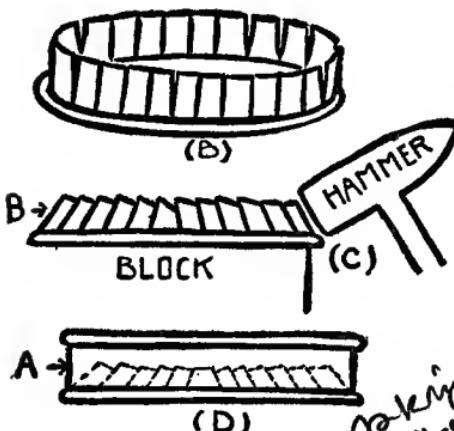

FIG. 49.
side of this second can, each cut to reach the base or rim of the can, see Fig. 49, B.
Place this part of the wheel on the wooden block and use the riveting hammer (C) to drive the cut side of the can inward as shown in Fig. 49, B.
place it over a pipe anvil which is held in the vise. Use a metal hammer and hammer around the edge of this can two or three times to enlarge it. Turn the can around the anvil when hammering it. Then try to push it down over the second or turned part of the second can as shown in Fig. 49, D. If it does not fit, continue the hammering until the two parts of the wheel fit together and then solder them in place and the wheel is completed, except for the